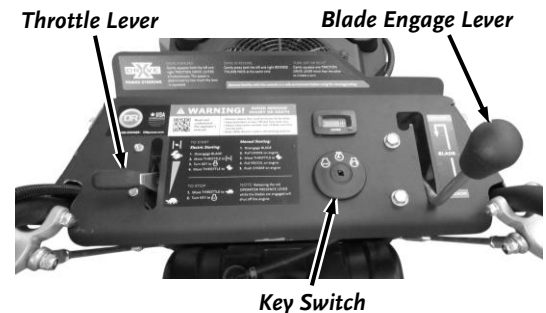

Figure 16
1. Move the Throttle Lever to Choke  (to Fast  if the Engine is already warm) (**Figure 16**).
2. Move the Throttle to Fast  Position (**Figure 16**).
1. Ensure the Blade Engage Lever is Disengaged (**Figure 16**).